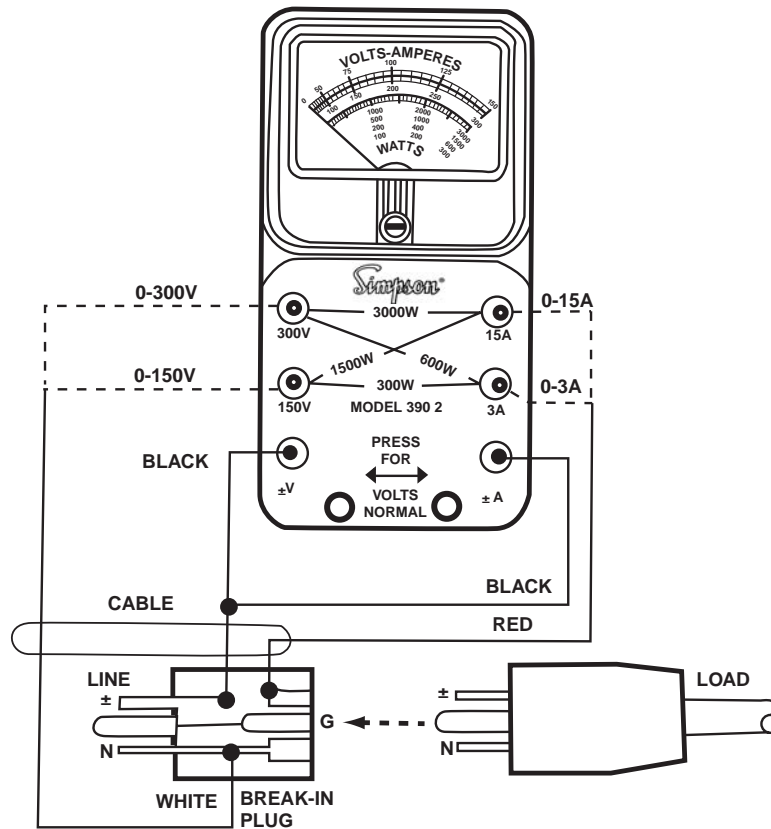
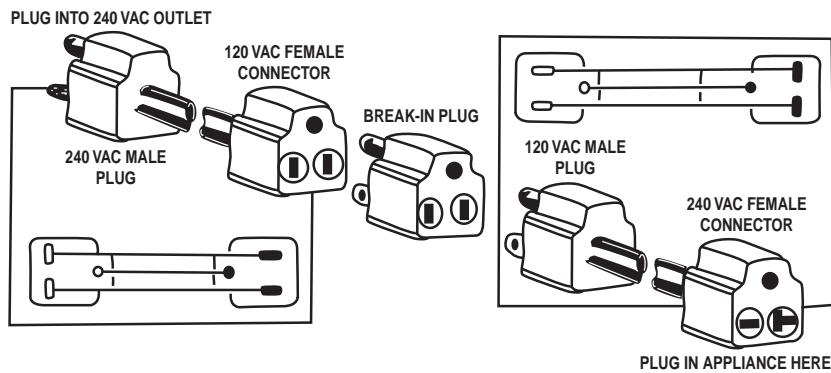
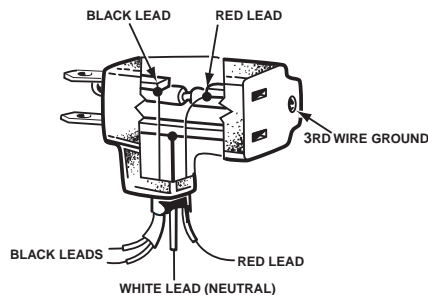

Figure 4.1 Break-In Plug Connections, 150V, 3A and 300W Ranges
Figure 4-3. Break-In Cable Assembly and Cable Adapter Set
Figure 5-4. Cross Section of Break-In Plug, Showing Cable Connections
When testing line-operated devices, always use the Break-In Cable Assembly supplied with the Instrument (see Figure 4-1 on page 7). Make up a cable adapter set for use on 240 VAC line-operated devices (see Figure 4-3 on page 12).
1. Connect the leads from the Break-in Plug Assembly according to color as shown in Figure 4-1. Connect the white lead to the jack marked 150V when testing 120 volt devices, or to the jack marked 300 V when testing 240 volt devices.
1. Connect the leads from the Break-In plug according to color as shown in Figure 4-1 on page 10. To use the 3A range, connect the red lead to the terminal marked "3A". Use the 0-300 scale and drop two zeros (divide by 100).
4. Plug the device to be checked into the Break-In Plug as shown in Figure 4-1.
1. Connect the leads from the Break-In Plug according to their color as shown in Figure 4-1.
3. Plug the device to be checked into the Break-In Plug as shown in Figure 4-1.
1. An adapter is required to connect from 120V to 240V line (see paragraph 4.3). The Break-In Plug will not connect directly into a 240V line. Therefore, it is necessary to construct an adapter plug. Refer to Figure 4-3 for adapter make-up and test connections.
2. Connect the white lead from the Break-In Plug (see Figure 4-1) to the 300V meter terminal. Connect the black leads to the $\pm V$ and $\pm A$ terminals.
The special Break-In Plug supplied permits connections across the line for voltage measurements and in series with the load for current measurements. These connections are clearly shown in Figure 4-1. Figure 5-4 shows the cable connections within the plug.